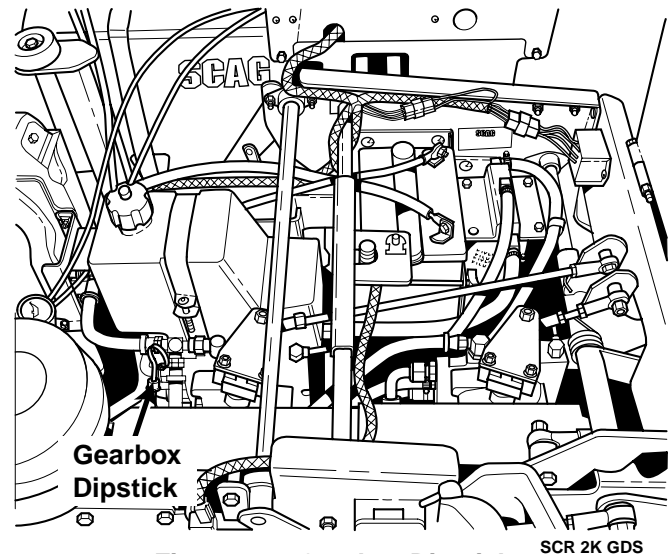

Figure 7-12 Gearbox Dipstick
2. Lift the seat to gain access to the gearbox dipstick. See Figure 7-12.